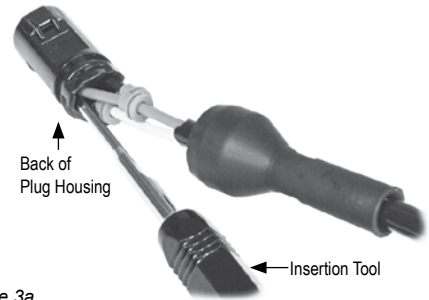

Figure 3a
• Crimped contacts are to be inserted from the rear side of the connector using insertion tool PM1002G1 or 111038G3 (See Figure 3a). Insert sockets into the Receptacle (SK1-016M03) and pins in the Plug (SK6-016M03). A tactile snap will be felt when contact is latched. Apply a slight tug to confirm latching. If using discrete wires, they will spin freely when latched in the housing. Contact retention should be 12 lb (53N).